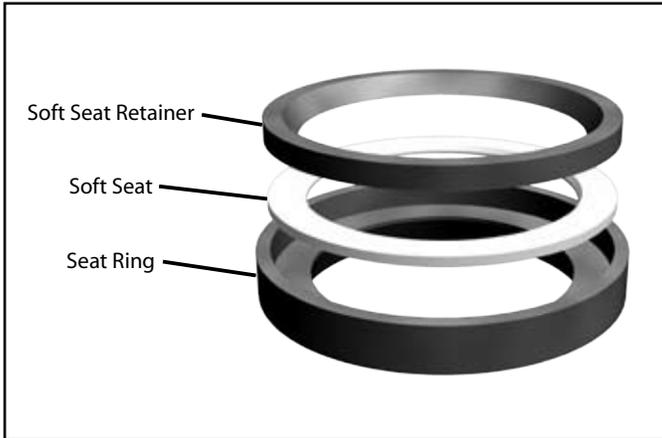

Figure 4: Soft Seat Assembly
6.5. Valves with soft seats (see figure 4) require the seat ring to be inspected and possibly disassembled. Check to see that seating surfaces on the plug and seat assemblies are free of damage. If the seat insert is worn, remove it from the assembly. Since the plug